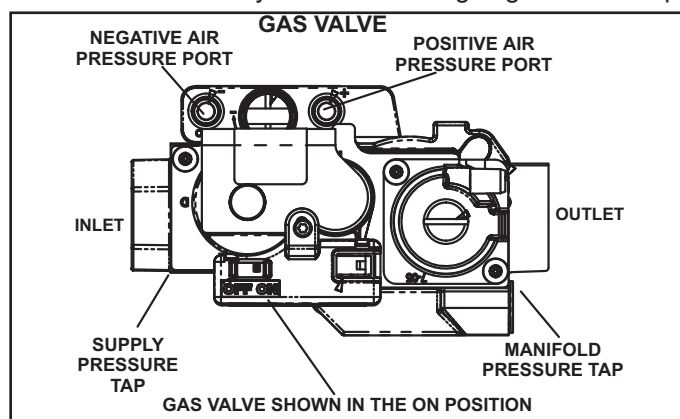

FIGURE 2
#### Operating the Gas Valve (Figure 2)
- 6 - Move the gas valve switch to the **OFF** position figure 2.
- 8 - Move gas valve switch to ON position. See figure 2.